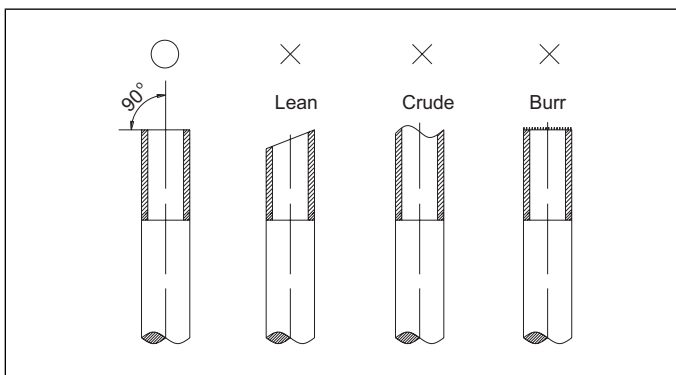

Figure 30. Cutting Pipe
4. Cut the selected pipes with a pipe cutter. Make the cuts flat and smooth as illustrated in "Figure 30. Cutting Pipe".